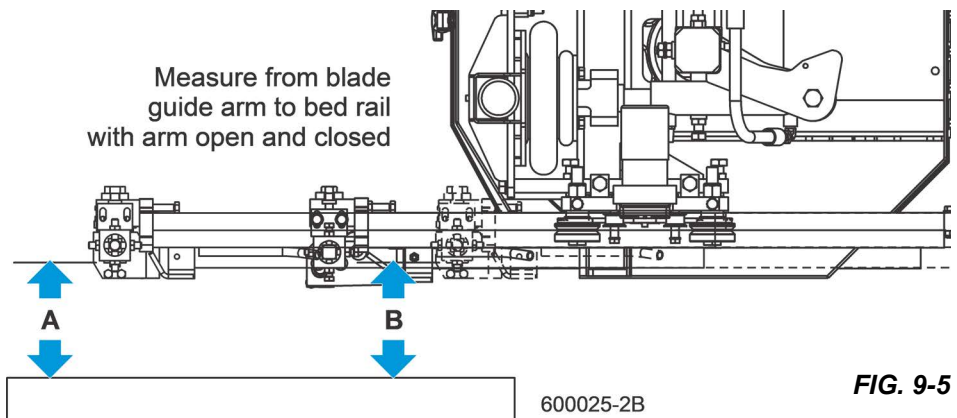

FIG. 9-5
13. Measure the distance from the bottom of the blade guide mounting block to the bed rail. See FIG. 9-5.